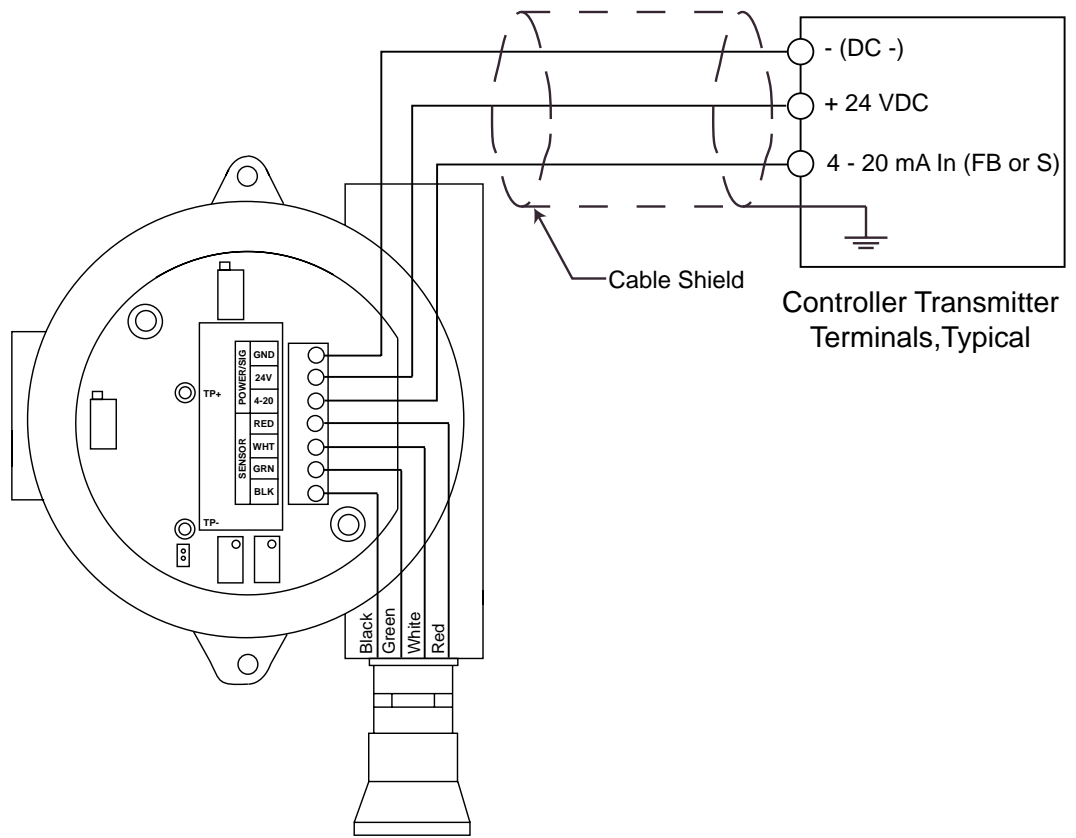

Figure 3: Wiring the Combustible Gas Transmitter to a Controller
4. Verify that the detector leads are wired to the amplifier's interconnect terminal strip. If necessary, connect the detector leads to the interconnect terminal strip as shown in Figure 3.
6. Connect the three wires to the interconnect terminal strip as follows (see Figure 3).
- Connect the feedback wire to the **4-20 (FB)** terminal.
9. Connect the wires to the applicable transmitter terminal strip at the controller as shown in Figure 3 below.
7. Connect the detector leads to the interconnect terminal strip as shown in Table 3 below and Figure 3 on page 10 of this manual.
10. Reconnect the wiring that connects the controller to the combustible gas transmitter at the amplifier's interconnect terminal strip as shown in Table 4 below and Figure 3 on page 10 of this manual.
11. Reconnect the detector leads to the amplifier's interconnect terminal strip as shown in Table 5 below and Figure 3 on page 10 of this manual.